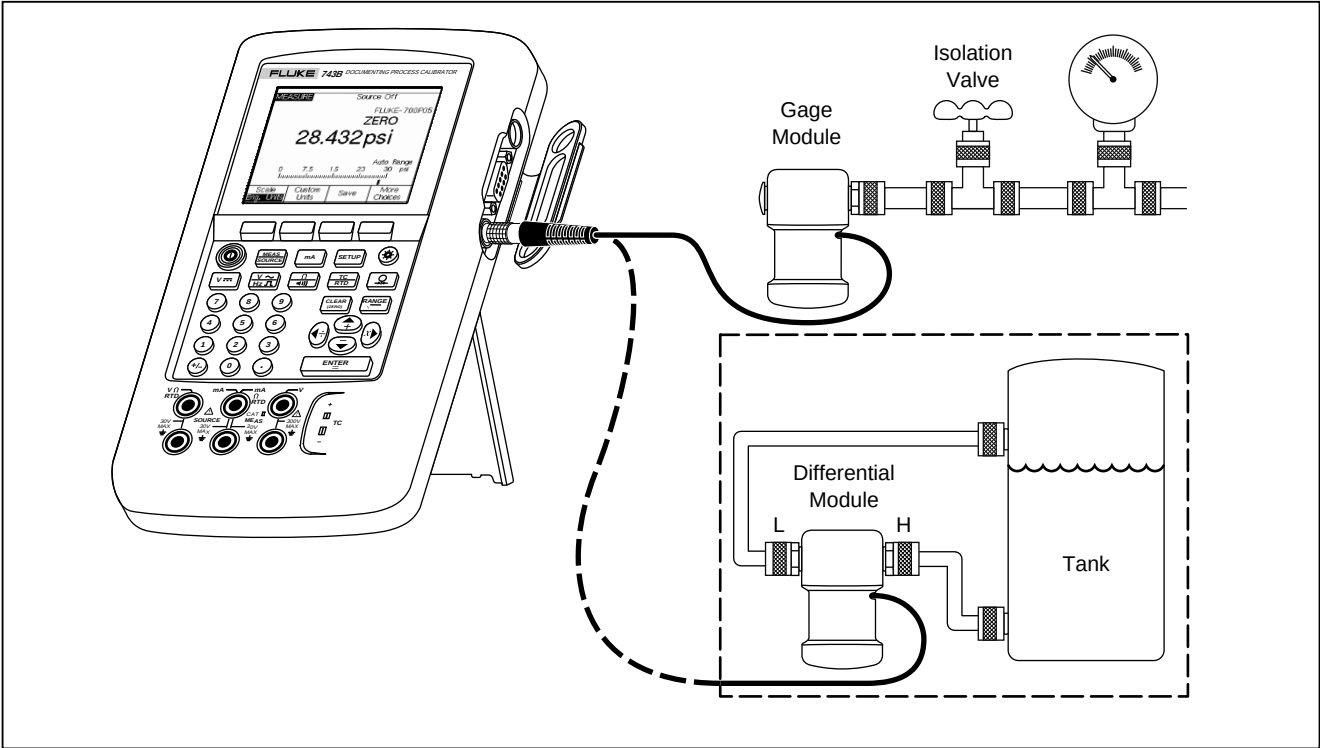

Figure 12. Connections for Measuring Pressure
1. Connect a pressure module to the calibrator as shown in Figure 12. The threads on the pressure modules accept standard $\frac{1}{4}$ NPT pipe fittings. Use the supplied $\frac{1}{4}$ NPT to $\frac{1}{4}$ ISO adapter if necessary.